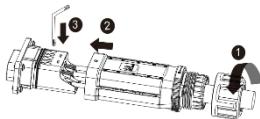
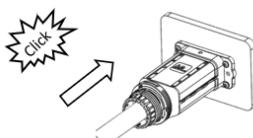

Fig. 11: Connecting wires
Fig. 12: Press the cover
- 1 Guide the configured cable through the nut and cover (fig. 11 pos. 1 & 2) and attach to the contact carrier (fig. 11/pos. 3) with the enclosed Allen key [KA_3 / 4.0 Nm].
- 2 Push the cover (Fig. 11. Pos 3) over the plug with the hole of the cover being visible (Fig. 12).